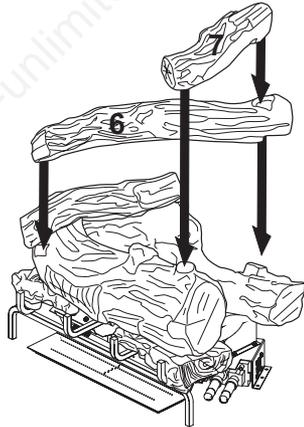

Figure 32 - Installing Logs #6 and #7
6. Place top middle log (#6) onto rear log (#1) and front log (#3). Match square peg on bottom of log #6 with square hole on log #4 and round hole on log #6 with peg on log #1 (see Figure 32).
7. Place top right log (#7) onto top middle log #6 and front log (#3) matching peg on bottom of top right log #7 with hole on top middle log #6 and hole in top right log #7 with peg on front log (#3) (see Figure 32).